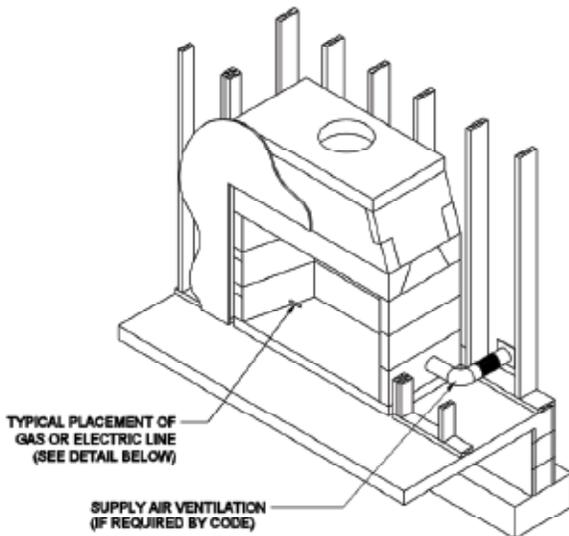

FIGURE 18
Step 11: Set the smoke dome top plate into position on top of the smoke dome wall assembly. (Figure 18)
**Note:** The completed smoke dome assembly should present a stable and level surface for setting the flue components. (Figure 18)
Gas line for gas log sets used in the Isokern firebox can be routed through the side wall, back wall or floor of the firebox by drilling an appropriately sized hole using a masonry drill bit (Figure 18).
3. Electrical Line Feed can be routed through the STANDARD firebox back wall, side walls or floor by drilling an appropriately sized hole using a masonry drill bit (Figure 18). Be sure to follow the gas log appliance manufacturer's explicit electrical line connection instructions for vented masonry fireplace installations.